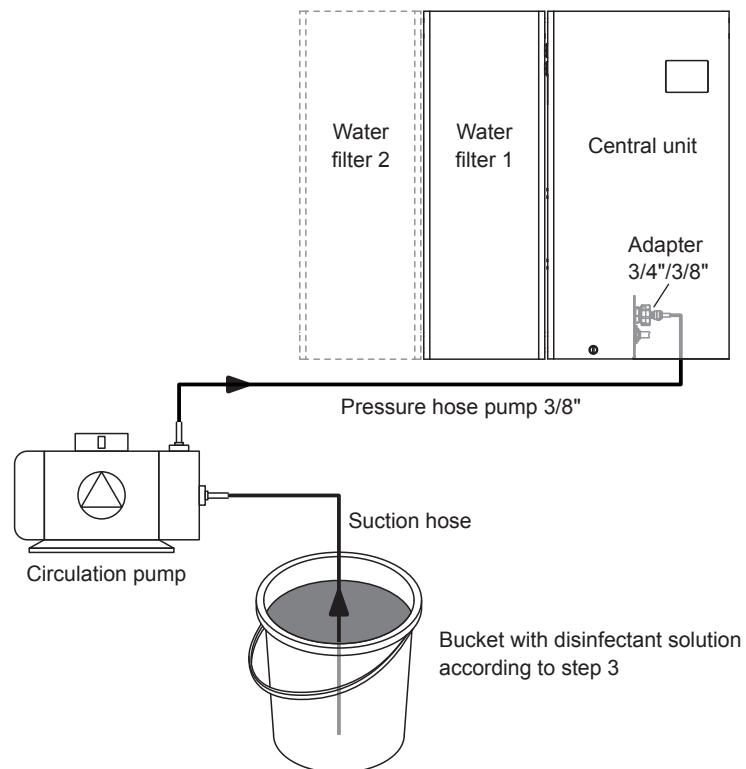

Fig. 48: Schematic diagram for the connection of the circulation pump for disinfection
- Immerse the suction hose of the circulation pump (service accessory) in the bucket with the disinfectant solution and connect the pressure hose to the supply connection of the central unit (see Fig. 48). Then start the circulation pump according to the instructions of the pump.